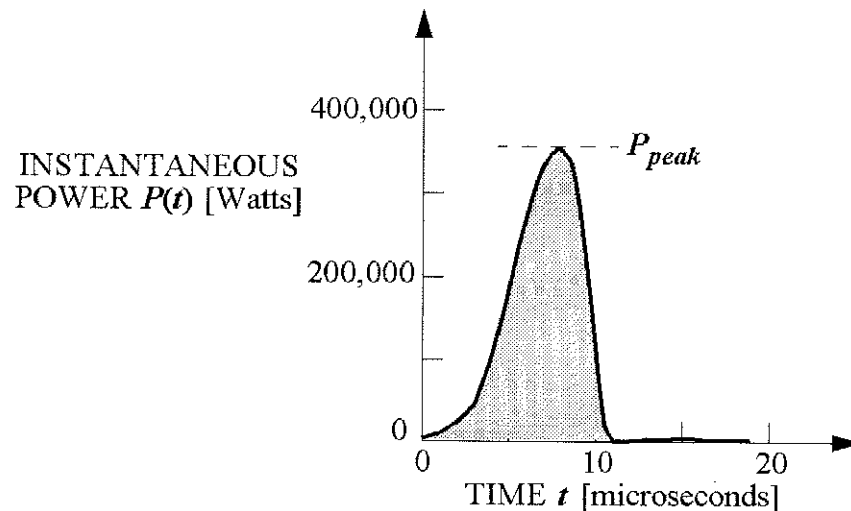

Fig. 2 - Instantaneous output power $P(t)$ of ADVANCED TASER M26.
as shown in Fig. 2.
(4) Energy Per Pulse: The energy-per-pulse W [Joules] is given by the shaded area² under the curve in Fig. 2. For the ADVANCED TASER[®] M26, still assuming $R = 1,000 \text{ Ohms}$, this area is found to be